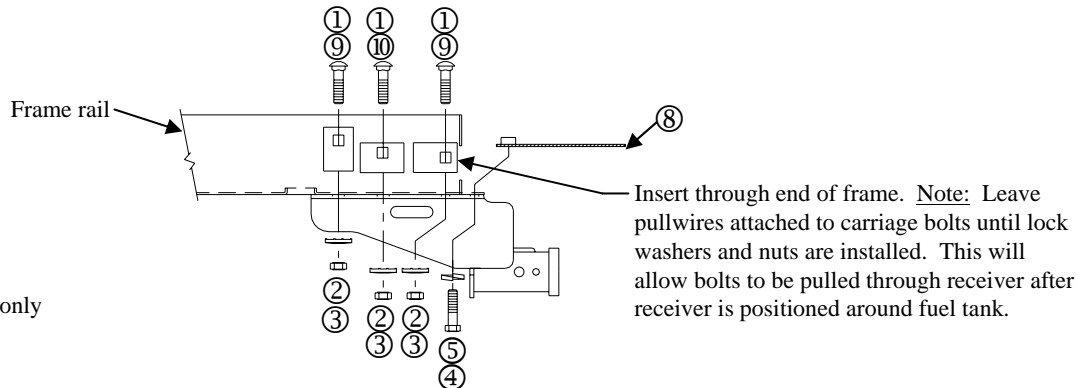

Figure 3
A. Remove tow hook and tow hook bracket; Return component to vehicle owner. Mount driver's side of receiver using M12 bolts as shown in Figure 1. Mount passenger side of receiver as shown in Figure 3.
Option D – See Figure 3
A. Using pullwire feed 1/4 X 1-1/2 X 2 blocks (Item 9 & 10) and carriage bolts through end of frame and into existing holes. Raise hitch into position and attach per Figure 3.